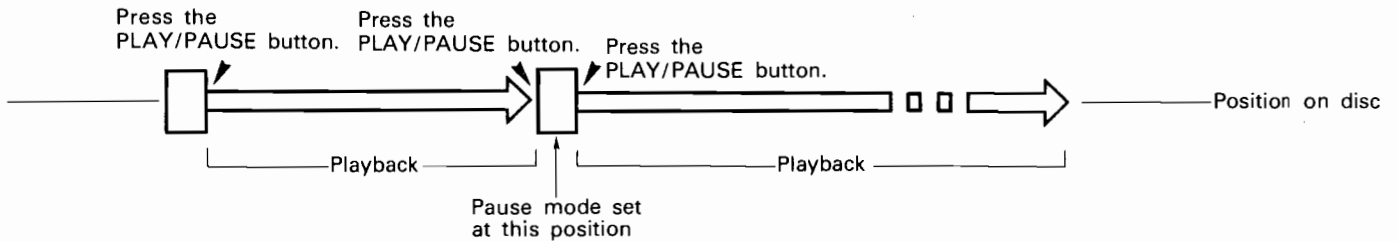

Figure 16
③ Operating buttons (PLAY/PAUSE and CUE)
- Operation switches between the playback and pause modes each time the PLAY/PAUSE button is pressed. See figure 16.
Figures 16 to 18 show typical examples of the operation when the PLAY/PAUSE and CUE buttons are pressed.
When the PLAY/PAUSE button is pressed, playback begins and continues as shown by the arrow in Figure 16. The pause mode is set when the PLAY/PAUSE button is pressed during playback, and playback resumes when the PLAY/PAUSE button is pressed again.